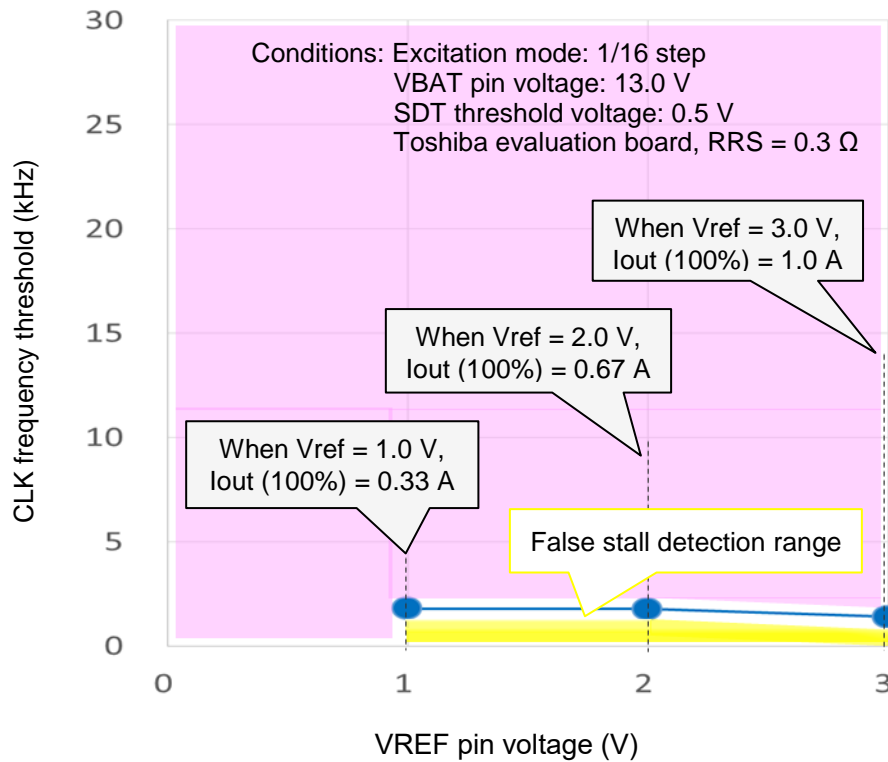

Figure 17. VREF pin voltage vs. CLK frequency threshold (for reference)
- As shown in Figure 17, the result is as follows: